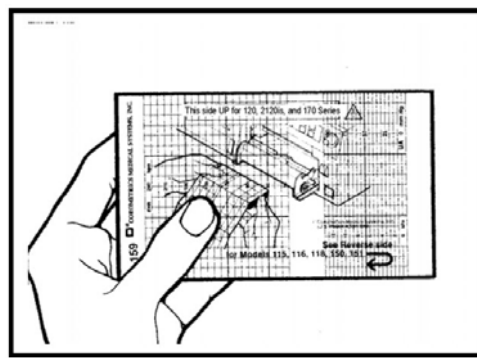

Figure 2-2
3. Hold the package of paper such that the black squares are on the bottom of the pack and the Corometrics logo and page numbers are on the left side of the pack (See Figure 2-2).